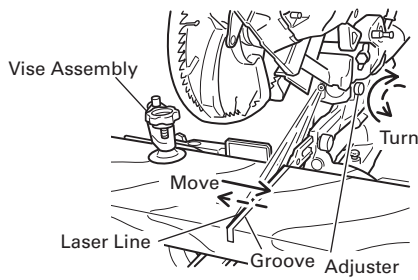

Fig. 22
- (2) Then, turn the adjuster and shift the laser line. (If you turn the adjuster clockwise, the laser line will shift to the right and if you turn it counterclockwise, the laser line will shift to the left.) When you work with the ink line aligned with the left side of the saw blade, align the laser line with the left end of the groove. (Fig. 22) When you align it with the right side of the saw blade, align the laser line with the right side of the groove.
- (3) After adjusting the position of the laser line, draw a right-angle ink line on the workpiece and align the ink line with the laser line. When aligning the ink line, slide the workpiece little by little and secure it by vise at a position where the laser line overlaps with the ink line. Work on the grooving again and check the position of the laser line. If you wish to change the laser line's position, make adjustments again following the steps from (1) to (3).